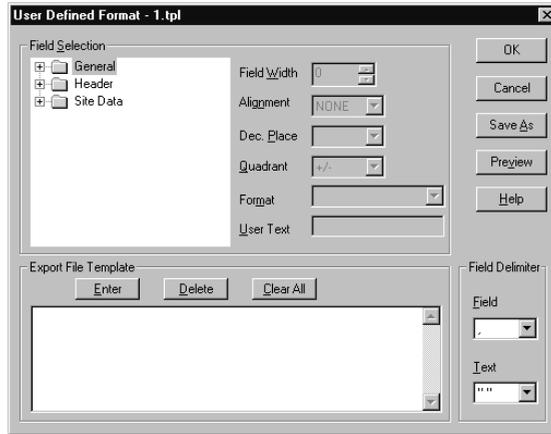
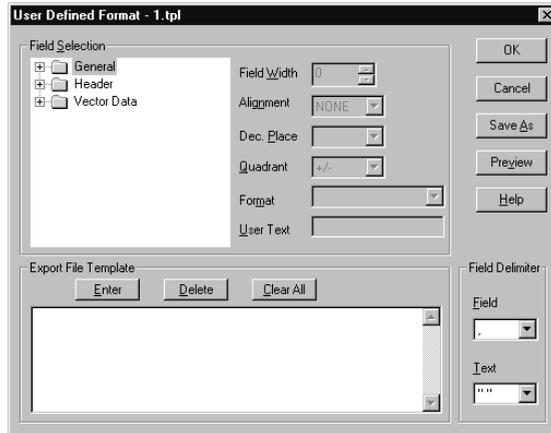

Figure 8.4. User-Defined Format Dialog Box with Site Data
Figure 8.5. User-Defined Format Dialog Box with Vector Data
2. Once you enter a name and click **OK**, the **User Defined Format** dialog box opens, Figure 8.4 and Figure 8.5, showing Site Data or Vector Data in the **Field**